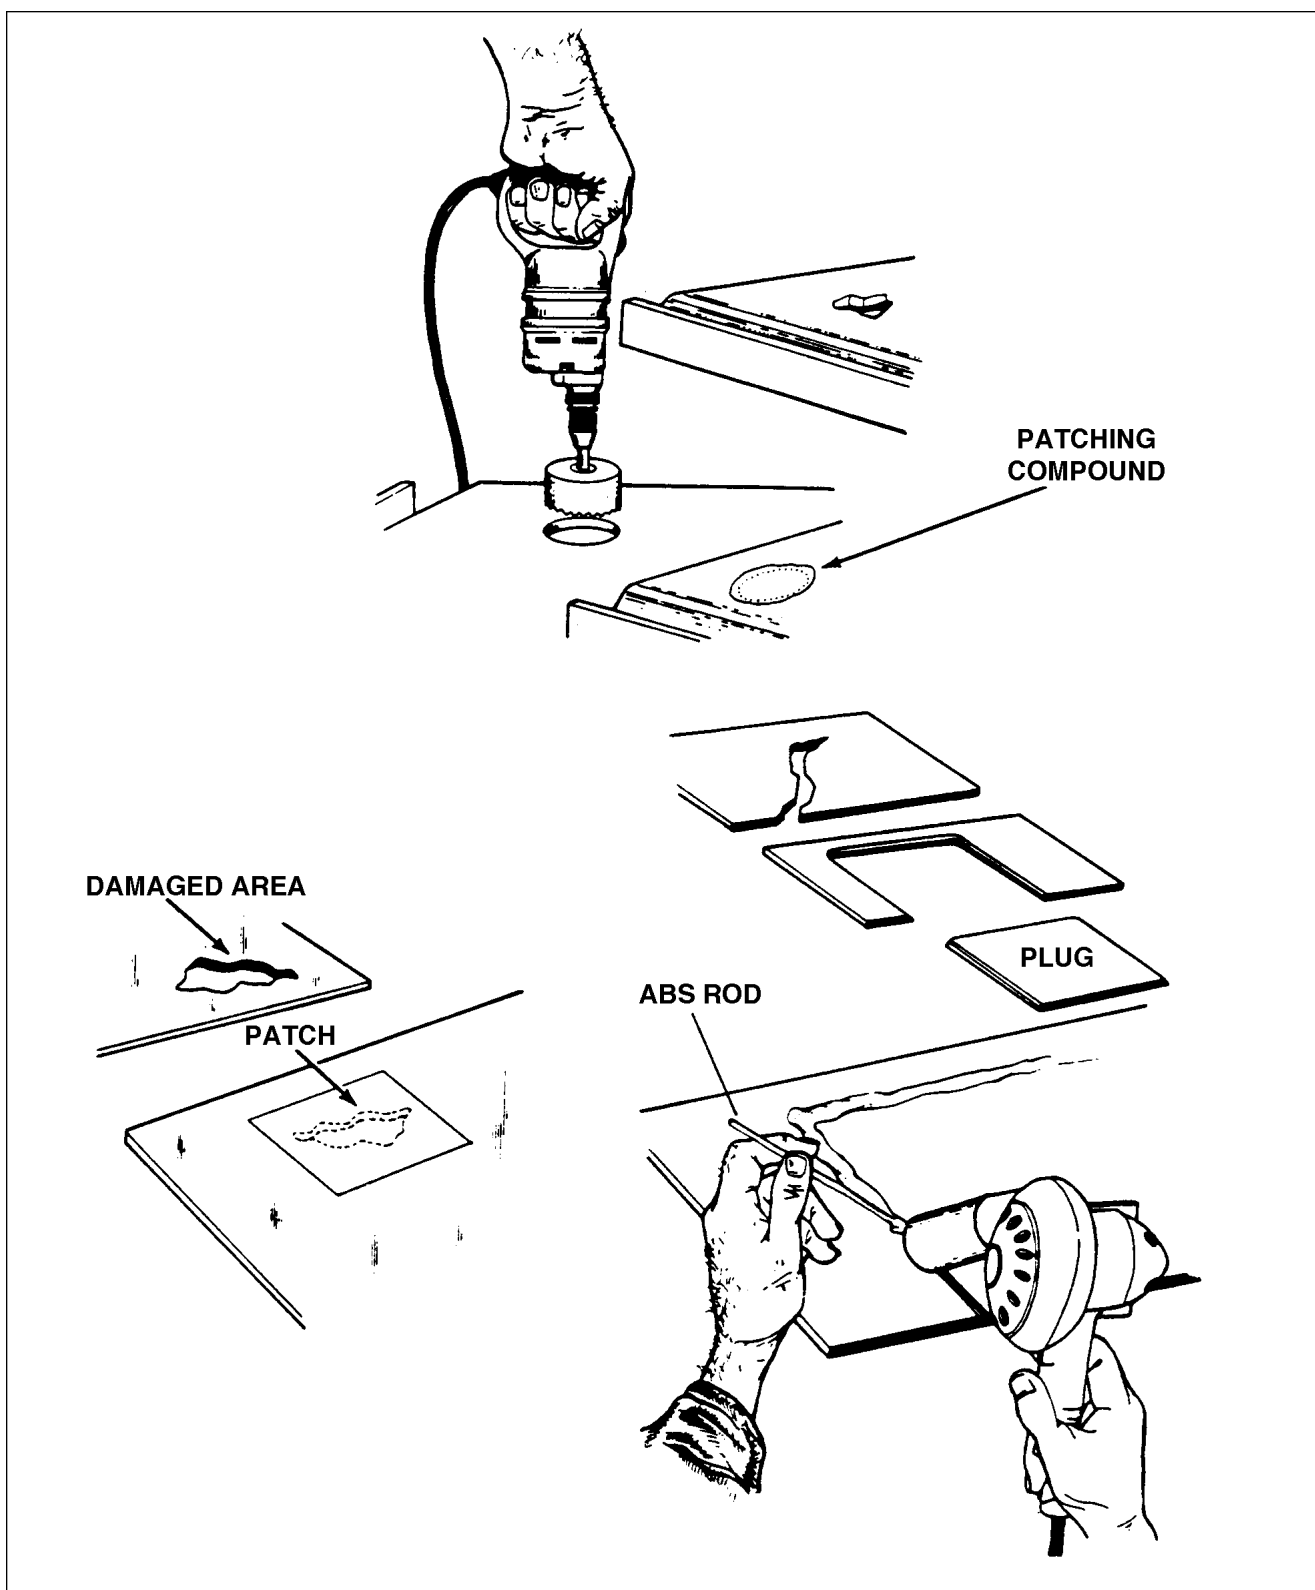

Figure 4-19. Various Repairs
e. Repairing Major Damage: (Larger than 1 inch in diameter.) (Refer to Figure 4-19.)